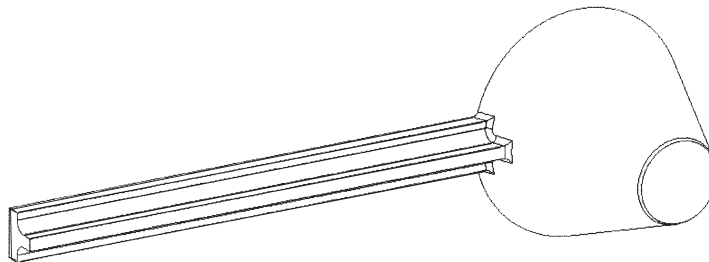

Figure 9
- (c) **Figure 9** shows one of the wind collectors and locating arm.